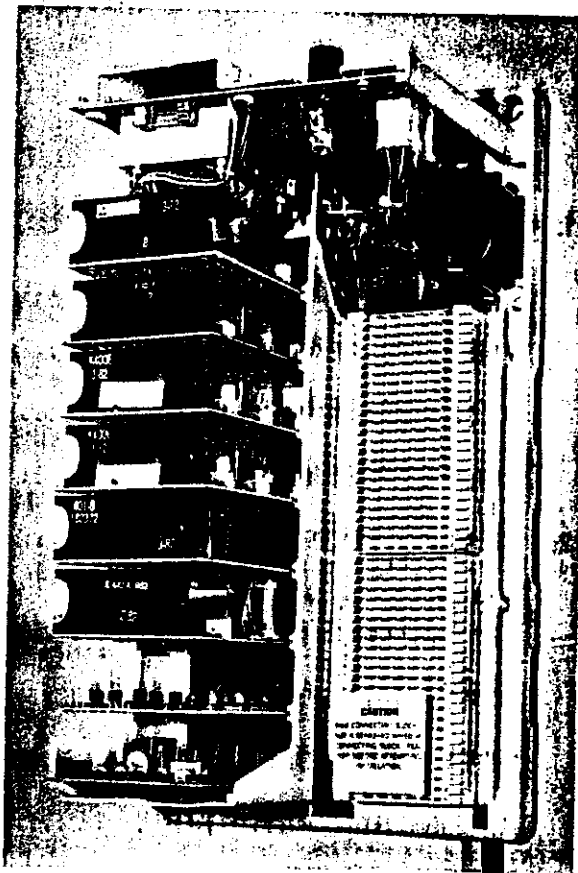

Figure 1: 601A Key Service Unit
1.01 This section covers identification, installation, and operation of a 601A Key Service Unit (KSU) and associated apparatus. (See Figure 1.) The 601A KSU provides standard key system functions and features for five CO lines and ten stations. Various optional features may be added to the basic 601A KSU to meet the individual requirements of each installation. Standard key telephones are used in a 601A KSU.